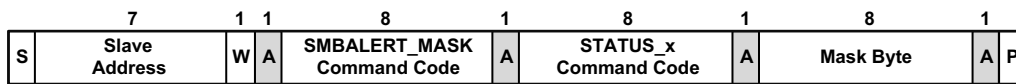

Figure 33. SMBALERT\_MASK Command Packet Format
Figures 33 and 34 show the command format used to block a status bit or bits from causing the SMBALERT# signal to be asserted. The bits in the mask byte align with the bits in the corresponding status register. For example, if the STATUS\_TEMPERATURE command code were sent with the mask byte 0100000b, an over-temperature warning condition would be blocked from asserting SMBALERT#.
**Note:** Figure 33 shows the command format used by the host to determine the SMBALERT\_MASK setting for a given status register.